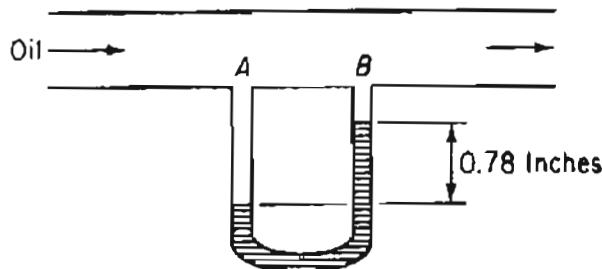

Figure P5.22
- *5.22 Examine Figure P5.22. Oil (density = 0.91 g/cm³) flows in a pipe, and the flow rate is measured via a mercury (density = 13.546 g/cm³) manometer. If the difference in height of the two legs of the manometer is 0.78 in., what is the corresponding pressure difference between points A and B in mm Hg? At which point, A or B, is the pressure higher? The temperature is 60°F.